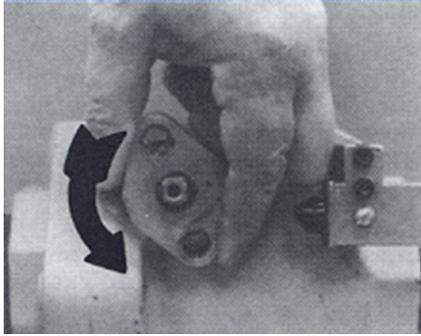
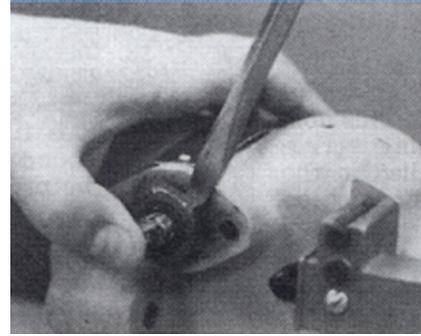

Figure 2. Turn gland retainer (step 3)
Figure 3. Pry out gland (step 5)
1. Remove the operating handle (key 18), fuse link assembly (key 22), and retainer (key 24) by unscrewing the bolt (key 23).
2. Take out the two gland bolts (key 33).
3. Turn the gland retainer (key 32) one-half turn counterclockwise, refer to Figure 2.
4. Remove the gland retainer from the gland (key 27).
5. Holding the valve's shaft firmly in place, pry out the gland with a screwdriver, Figure 3.